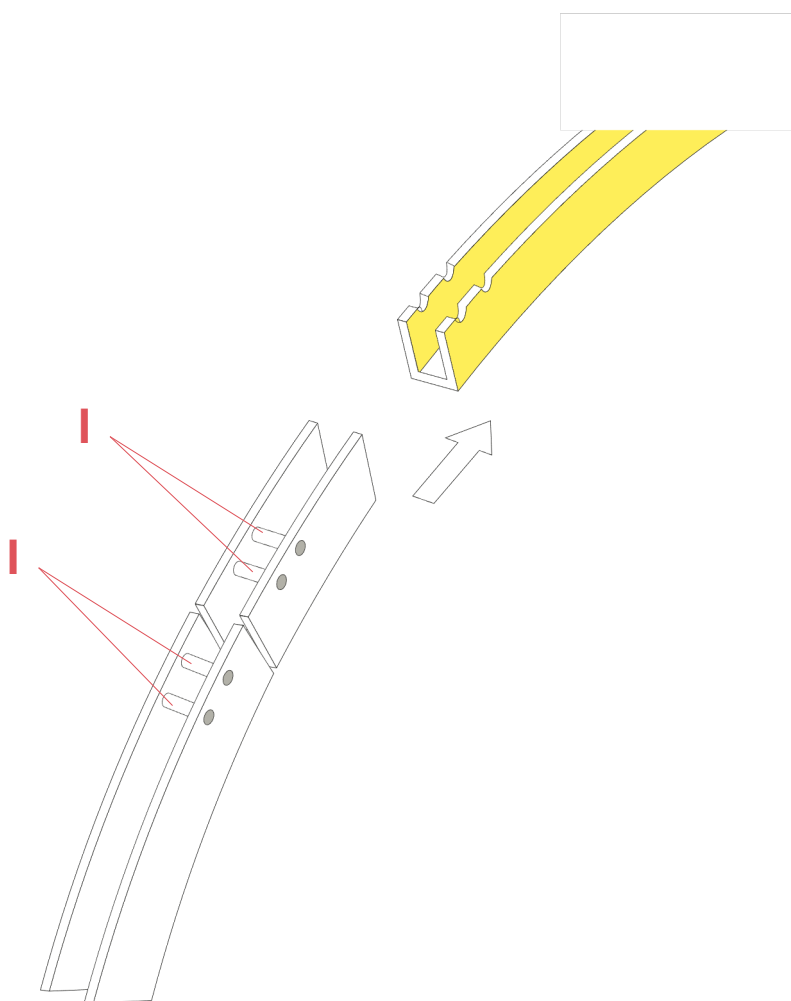

Fig.3
After having positioned carefully the electric cable (T) on the bottom channel, connect the connector (N) to connector (O) of the cable coming from the stem (B).(Fig.3 page 48)